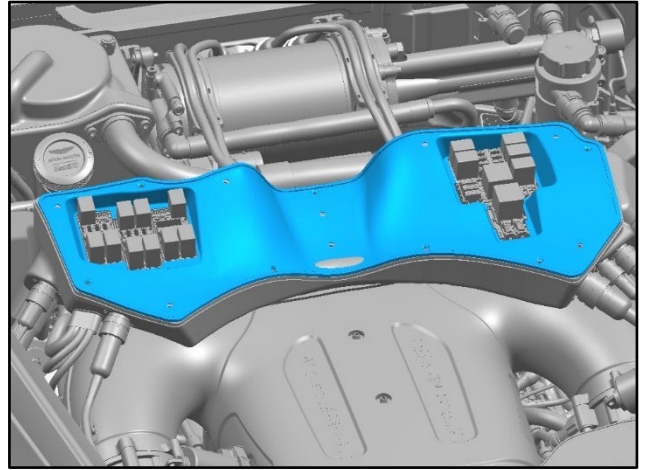

Figure 12
12. Put the closing panel for the fuse box into position (refer to Figure 12).